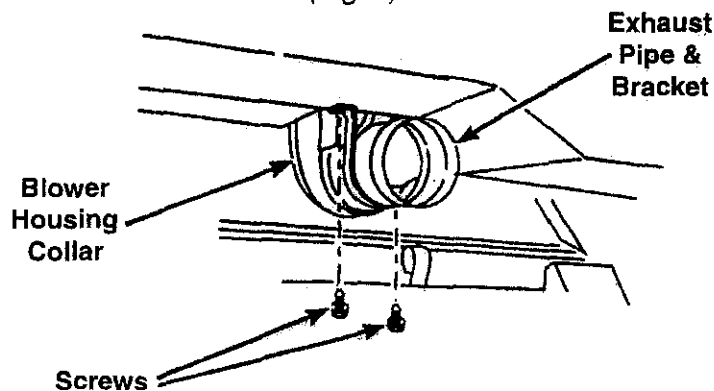

Fig. 7
2. Remove the two (2) $\frac{5}{16}$ -inch screws securing the exhaust pipe bracket to the laundry system. Remove the factory installed exhaust pipe from the blower housing collar. Save the exhaust pipe bracket and screws for use later. (Fig. 7)